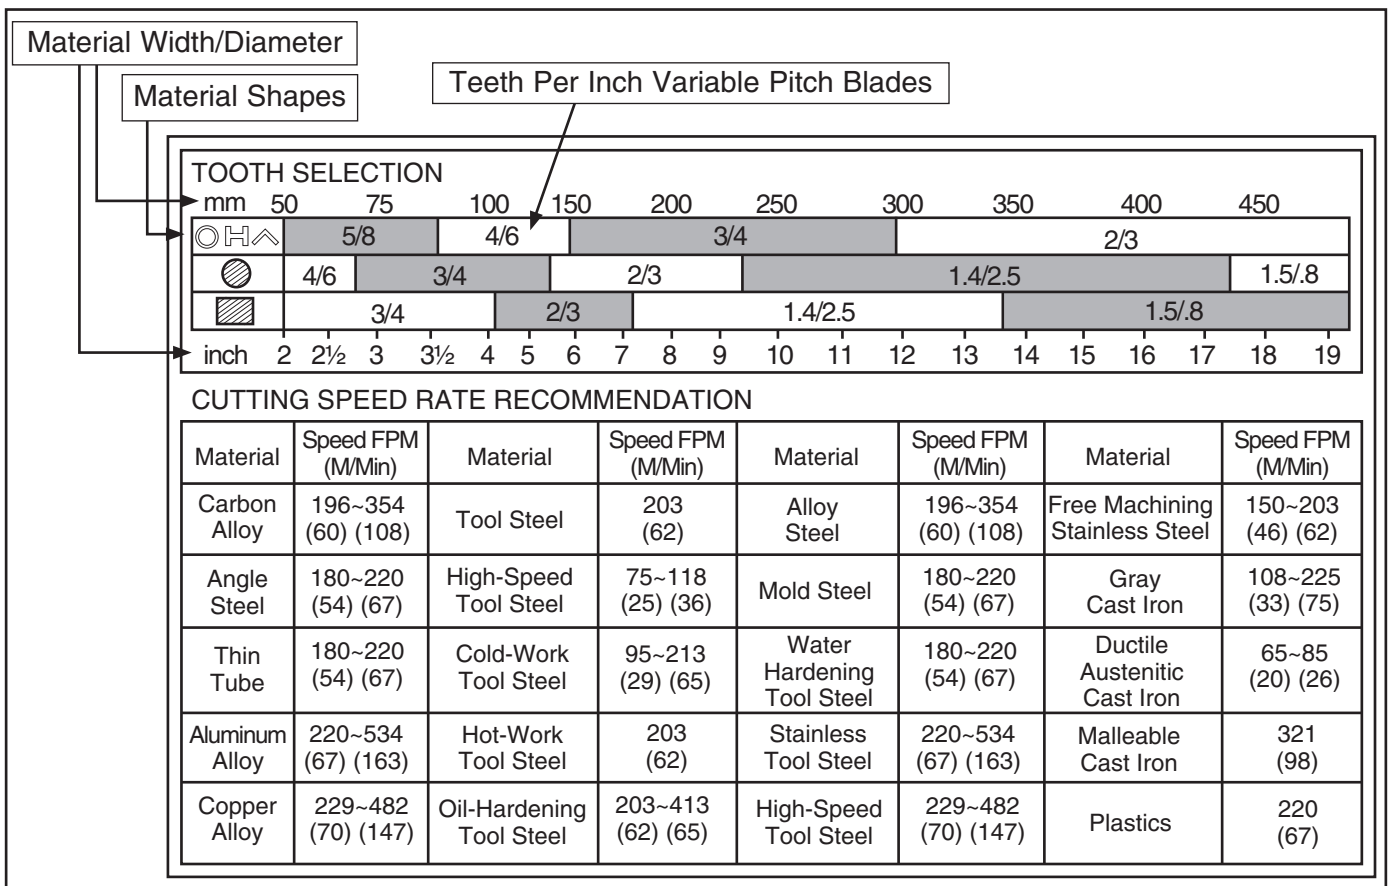

Figure 19. Model G9744Z blade selection and speed chart.
2. Refer to the "Material Width/Diameter" row of the blade selection chart in **Figure 19** and read across to find your workpiece thickness you need to cut.